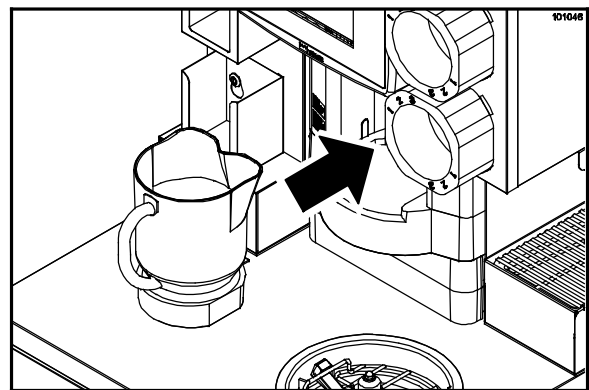

Figure 151
- Place a blender pitcher in the dispensing area. (See Figure 151.)